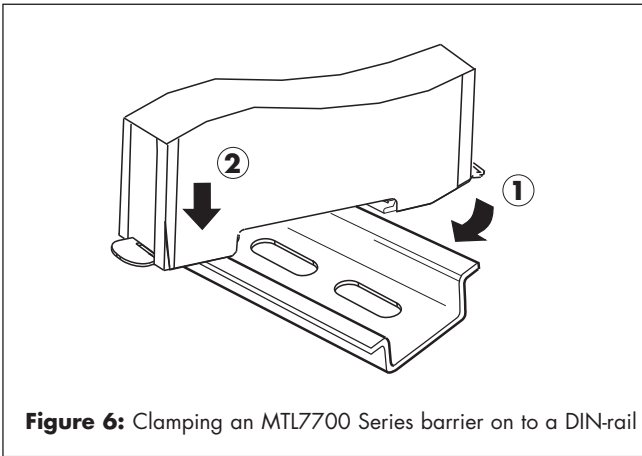

Figure 6: Clamping an MTL7700 Series barrier on to a DIN-rail
- a) Hook the hazardous-area end of the mounting/earthing clamp over the hazardous-area flange of the DIN-rail (figure 6).